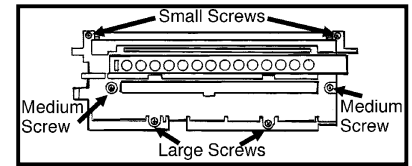

Figure 1
1. Remove the six screws on the top of the unit (Fig 1).
14. Replace the top cover and secure it with the six screws, making sure that the screws go back into their proper places (Fig. 1).